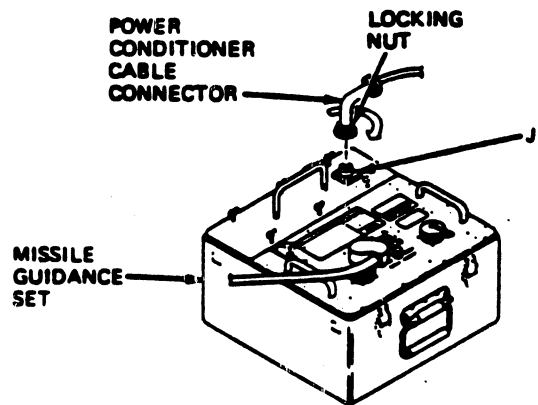

Fig 2-43. Connecting the power conditioner cable.
Step 4. Line up the power conditioner cable connector with connector J1 on the power conditioner. Push down on the power conditioner cable connector and turn the locking nut clockwise (fig 2-43).